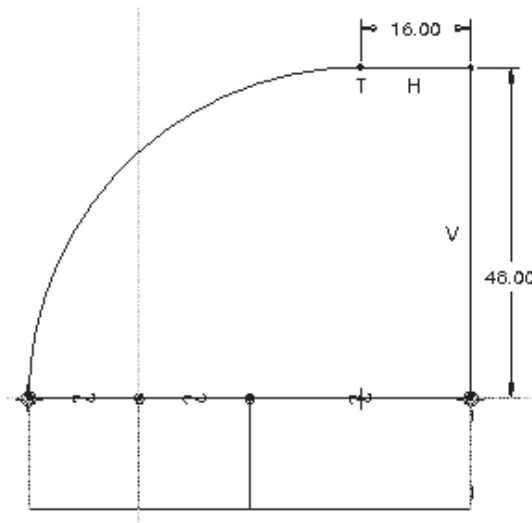

Figure 4-79 Sketch with dimensions and constraints for the second feature
2. Draw the sketch using various sketcher tools, as shown in Figure 4-79. The sketch is dimensioned automatically and some weak dimensions are assigned to it.
3. Apply the constraints and modify the weak dimensions to the dimensions shown in Figure 4-79.